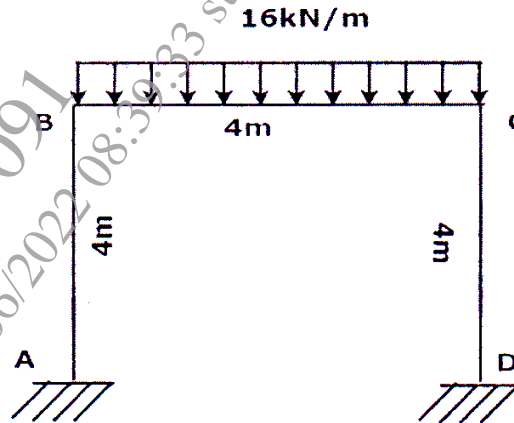

Figure 7
- Q4) a) Calculate moment at supports for the frame as shown in figure 7 by moment distribution method and draw BMD. Assume uniform flexural rigidity. [12]